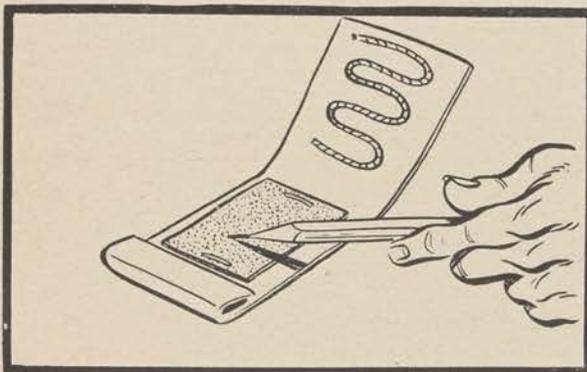

Figure 13.
c. A piece of sandpaper glued to the inside of a used match book is useful for putting a point on pencils (fig. 13). A pipe cleaner glued under the cover serves as a wiper.